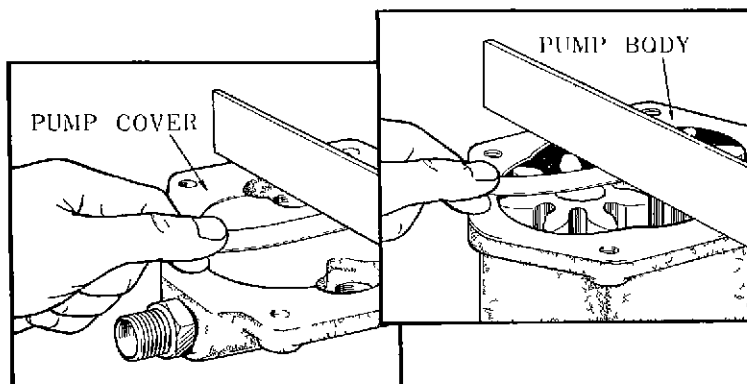

Figure 36 - Checking Gears End Play
(5) Place a new gasket on pump body cover flange and lay a steel straightedge on gasket. Measure the space between the gear and straightedge with feeler gage (Fig. 36). Lay the straightedge on pump cover and measure the space between the straightedge and gear contacting surface on pump cover with feeler gage (Fig. 36). If the sum of these values measured exceeds 0.15 mm, replace gears or pump assembly.